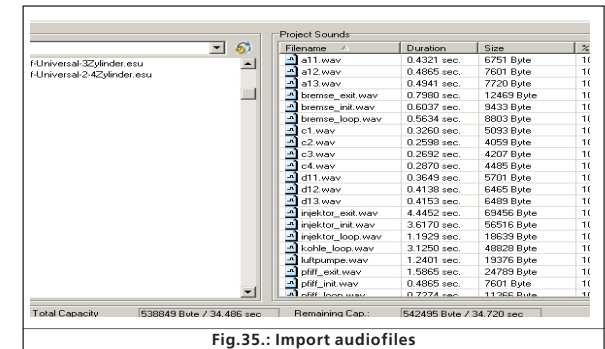

Fig.35.: Import audiofiles
- Import „siedens.wav“. in the middle part of the first sound slot. Repeat this procedure with „d12s.wav“ and „siedens.wav“ in the second slot and so forth until finally „D1“ looks the same as shown in Fig. 35.